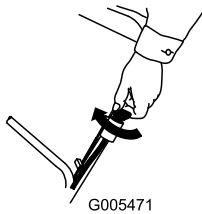
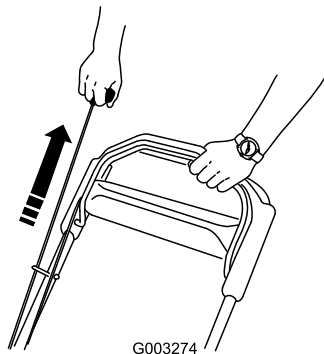

Figure 14
Figure 15
2. Turn the ignition key (electric-start models only) (Figure 14) or pull the recoil start handle (Figure 15).